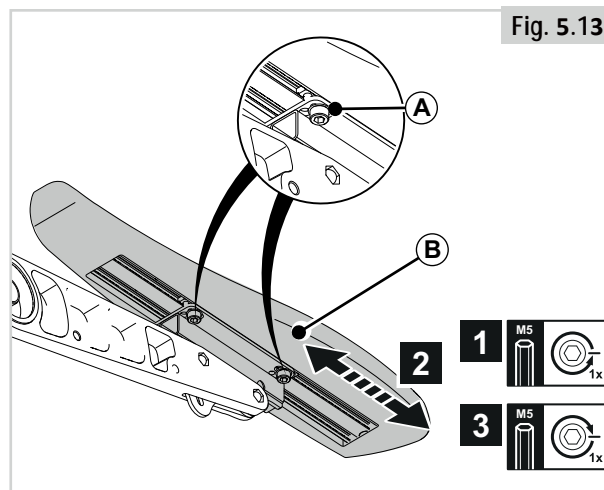

Fig. 5.13
### Armrest pad depth (Fig. 5.13)
In order to reach the rear screw in lower armrest heights, loosen screws (A) of Fig 5.13 and adjust the angle of the pad first.